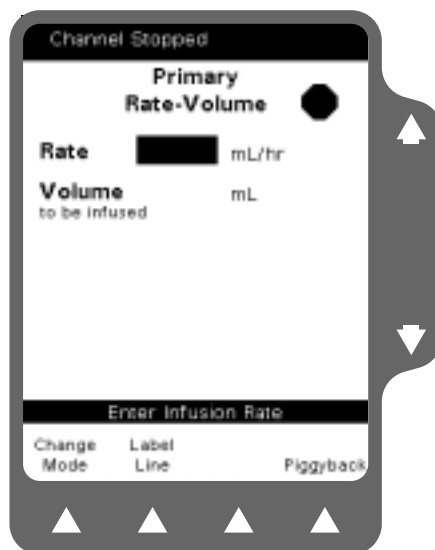

Figure 5-17 Primary Programming Screen
1. If the pump is running, press the **STOP** key to stop the pump. Press the **Primary** soft key to access the Primary Programming screen (Figure 5-17).